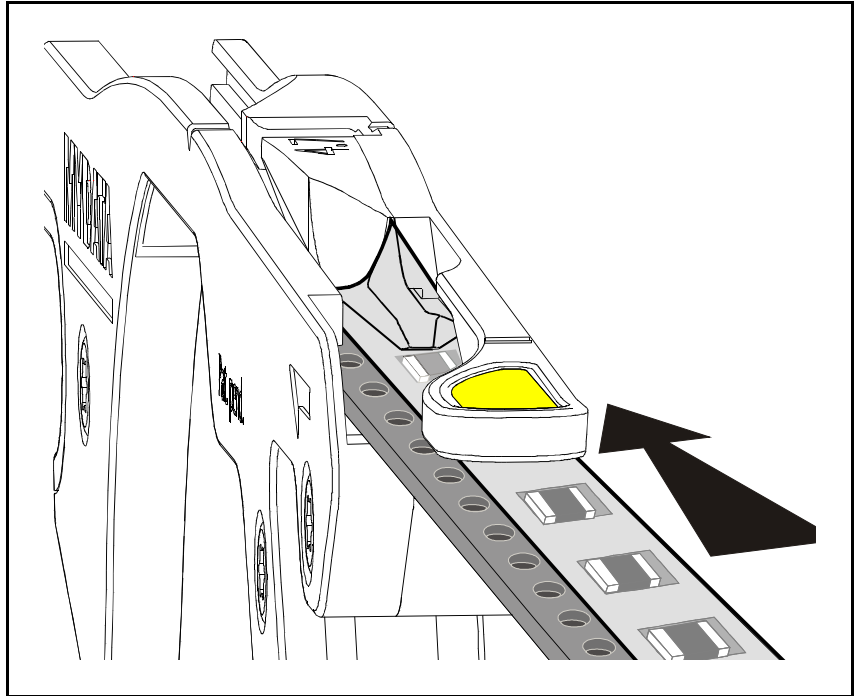

Figure 4-13. Threading tape onto feeder
1. Cut the tape straight off with a pair of scissors. Then push the tape into the feeder. Make sure the carrier tape is running below, and the cover tape above, the feeder rail, see Figure 4-13.